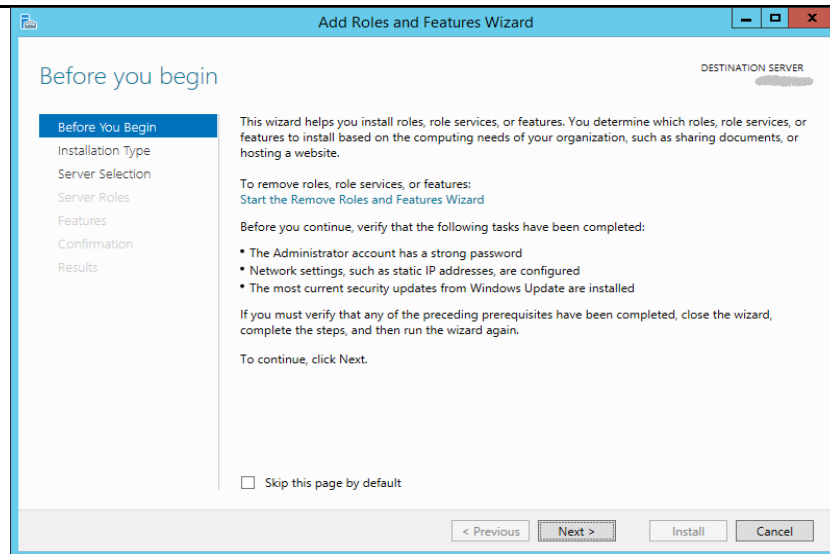

Figure 2. Before you begin section of the Add Roles and Features wizard
2. If you have specified preliminary operations, the Before you begin section of the Add Roles and Feature wizard displays (as shown in *Figure 2*):